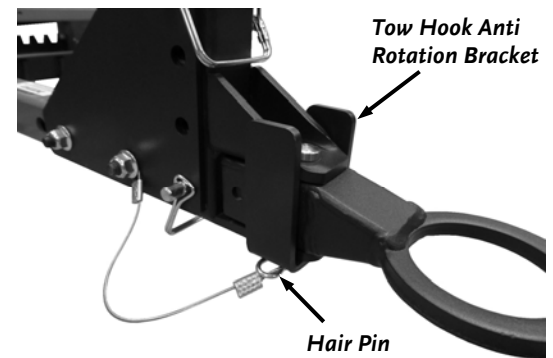

Figure 28
3. Place the Tow Hook Anti Rotation Bracket under the Tow Bar Hitch with the hole over the bottom of the Shear Pin (**Figure 28**).